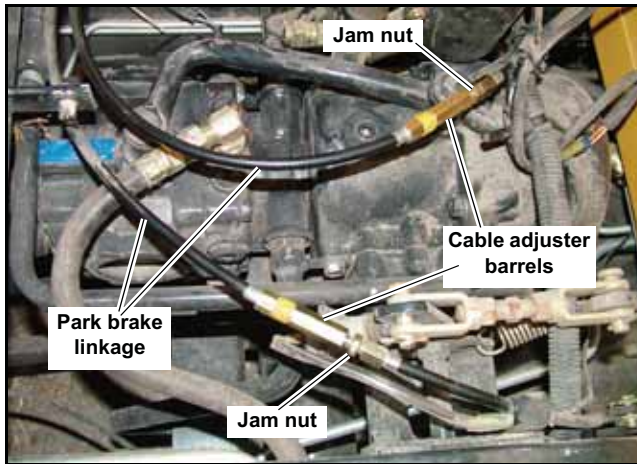

Figure 4-32
4. Loosen the jam nuts on each of the park brake cable in-line cable adjuster barrels as shown in Figure 4-32. Back the jam nuts off several turns.
5. Turn the in-line cable adjuster barrel (Figure 4-32) on each cable accordingly to properly adjust the cable. Lengthening the in-line cable adjuster assembly (exposing more threads) will tighten the cable and reduce the free play. Shortening the in-line cable adjuster assembly length (less exposed threads) will loosen the cable and create more free play. Both cables should be adjusted so they are providing equal free play when the brake is off, and equal brake force on each brake when the park brake is applied.